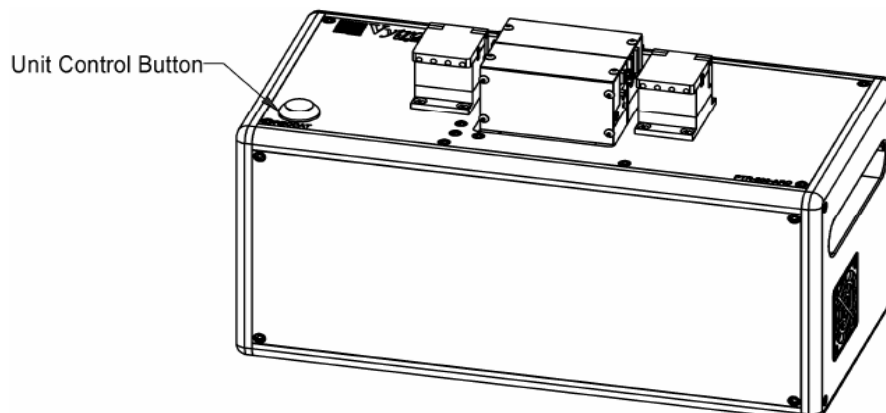

Figure 2 Unit Control Buttons
4. Determine which display controller option is provided (see Figure 2) and proceed to the appropriate section of Chapter 4 for further set-up.